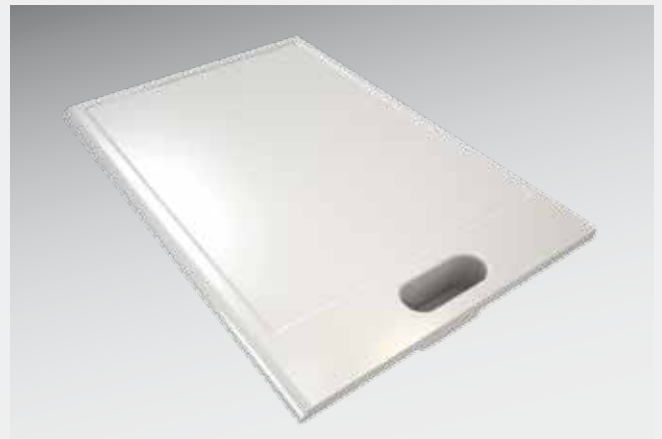

Figure 8)
- By means of a broad raised edge, placed either laterally or at the back (see Figures 8 and 9). This raised edge can at the same time be used as a place for utensils or as a tap landing. In such case, the cup sink is mounted onto the fume-cupboard plate from below.